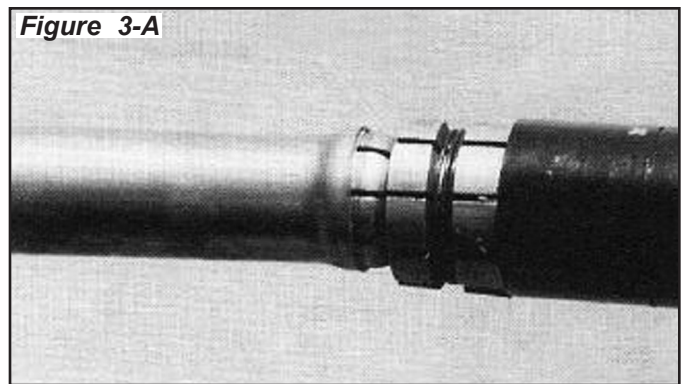

Figure 3-A
5. To make a female ball expansion, place the tubing over the arbor and segment set until the tubing is positioned midway at the grooved area. Depress the valve handle to flare the end of the tubing to match with the mating male ball joint. (See figure 3-A)